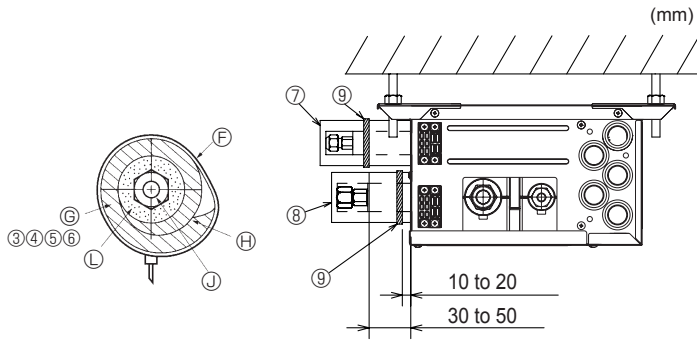
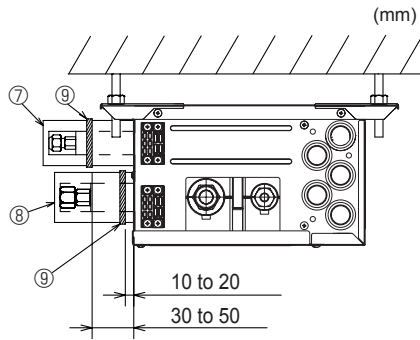

Fig. 7-3
Fig. 7-4
- (3) Connect the refrigerant piping immediately. Always tighten the flared nuts to the torque specified in the table 2 using a torque wrench and double spanner.
- (4) Press the pipe covers ③ and ⑤ on the liquid piping against the unit and wrap to hold in place. (Fig. 7-3)
- (5) Press the pipe covers ④ and ⑥ on the gas piping against the unit and wrap to hold in place. (Fig. 7-3)
- (6) Apply the supplied bands ⑨ at a position 10 - 20 mm from each end of the pipe covers (③④⑤⑥).
- (7) If the indoor unit is not connected, fit the supplied pipe covers (with caps, ⑦ and ⑧) to the branch box refrigerant piping connections against the unit to prevent condensation dripping from the pipes. (Fig. 7-4)
- (8) Clamp the pipe covers (⑦⑧) in place with the supplied bands ⑨.
- Ⓕ Band ⑨
- Ⓖ Pipe covers ③④⑤⑥
► Use the following procedures for indoor connection part which indoor unit is not connected. (Fig. 7-4)
- (1) In order to prevent refrigerant leaks, make sure that the flare nuts are tightened according to the specified torques* in Table 3.
- (2) In order to prevent condensation, install the pipe covers ⑦ ⑧ against the unit and fasten them with the supplied bands ⑨ .